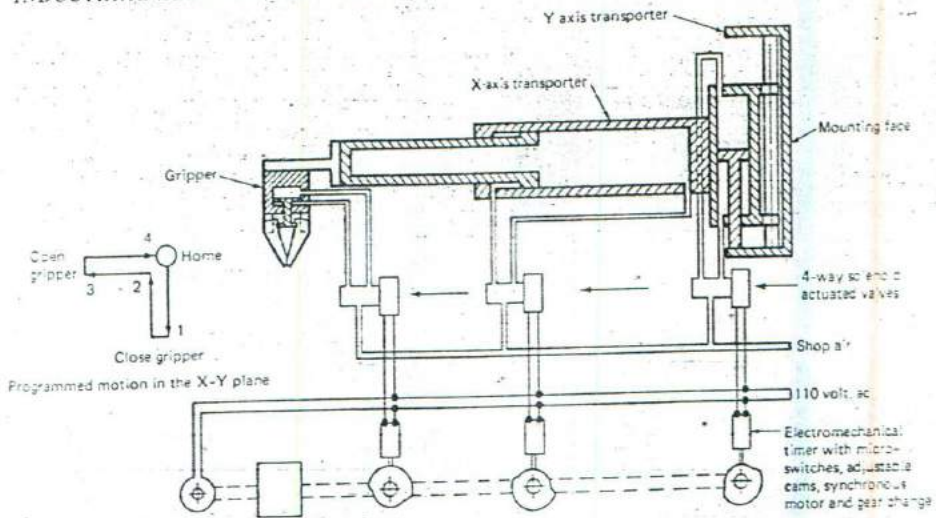

Fig. 15-25 Basic schematic diagram of an electromechanical controller.
Robot controllers range from simple electromechanical systems to powerful minicomputers. Figure 15-25 shows an example of a simple control for a low-technology robot. An electromechanical timer has a series of cams that activate microswitches. The microswitches control four-way solenoid valves to activate pneumatic cylinders for the *X* and *Y* axes and the gripper. Mechanical stops are set to limit the travel along the axes. The gripper has no stops and is either full open or closed on the work piece. Setting up this robot for a task involves adjusting the timing and sequence of the cams and adjusting the
- Refer to Fig. 15-25. How would the sequence of operations be changed with this control system?